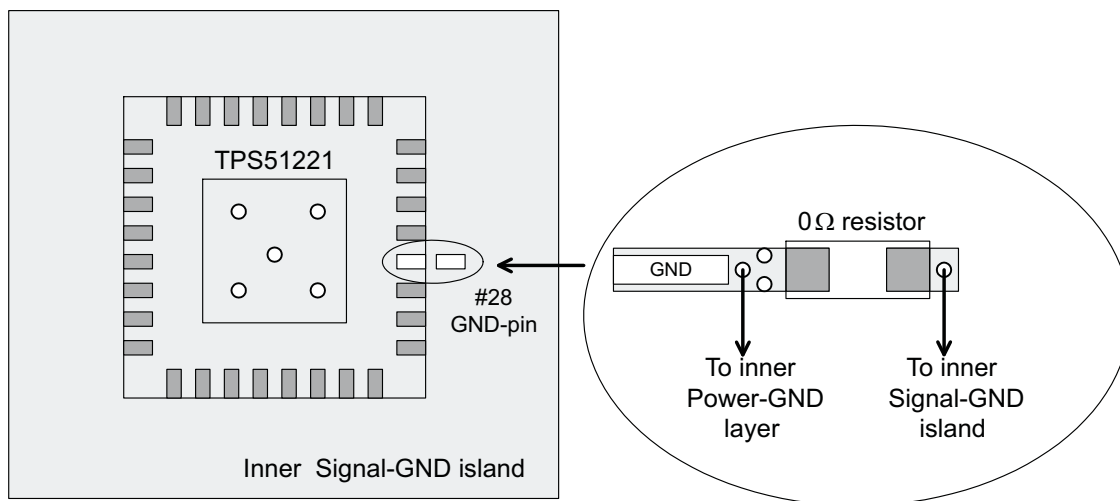

Figure 49. GND Layout Example
- Use signal GND for VREF2 and VREG3 capacitors, RF and VFB resistors and the other sensitive analog components. Placing signal GND island (underneath the IC and fully covered peripheral components) on the internal layer for shielding purpose is recommended. (See Figure 49)
- Use power GND for VREG5, VIN and Vout capacitors and low-side MOSFETs. Power GND and signal GND should be connected near the IC GND terminal. (See Figure 49)